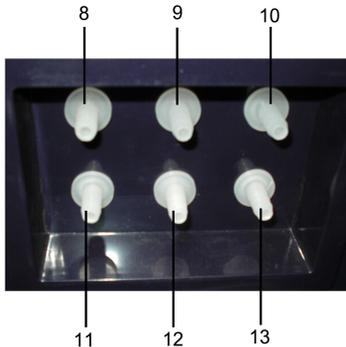

Figure 3 View of right side
6. Cooling water intake 7. Water discharge outlet (connect to drainage sink) The water intake ( 6 ) is commonly connected to the faucet of tap water. The water discharge outlet (7) is connected to drainage sink and make sure that the discharging performance is good.
**According to the view of right side (figure 3):**